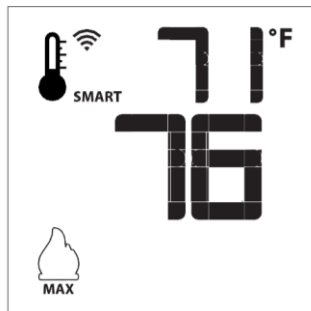
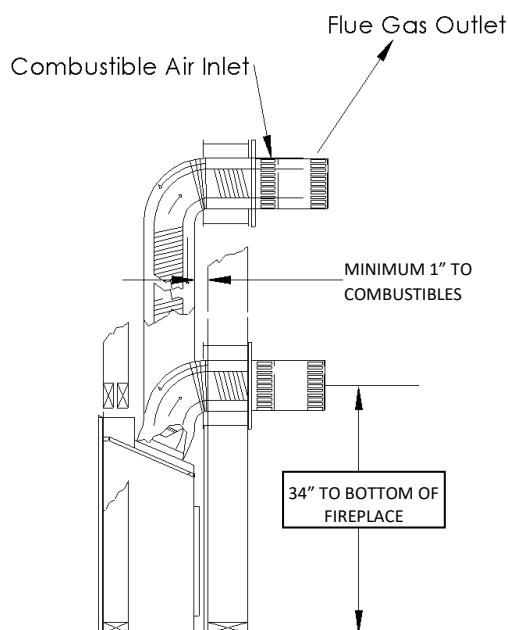

Fig. 11: Smart flame function
Figure 1
To activate this function, press the Thermostat Key (Fig. 1) until the word "SMART" appears to the right of the temperature bulb graphic (Fig. 11).
If the appliance is equipped with a hot air circulating fan, the speed of the fan can be controlled by the Proflame system. The fan speed can be adjusted through six (6) speeds. To activate this function use the Mode Key (fig.1) to index to the fan control icon (Fig. 13). Use the Up/Down Arrow Keys (Fig.1) to turn on, off or adjust the fan speed (fig. 14). A single "beep" will confirm reception of the command.
The auxiliary function controls the AUX power outlet by the dimmable light control. To activate this function use the Mode Key (fig. 1) to index to the AUX icon (fig. 15 & 16).
The intensity of the output can be adjusted through six (6) levels. Use the Up/Down Arrow Keys (Fig.1) adjust the output level (fig. 16). A single "beep" will confirm reception of the command.
Place the spring spaces provided approximately every two feet to stabilize 4" flex in the center of 7" flex. When forming bends place spring in bend or before and after. (See Fig. 1). Horizontal runs require support metal straps every 2 feet. In offset installation support straps should be used to stabilize pipe.
Expand 4" and 7" flex pipe to the point that the 7" protrudes approximately 2 to 3 inches past outer wall and the 4" flex protrudes approximately 2 to 3 inches past the 7" flex. (See Fig. 1). Attach the 4" pipe to the termination first and secure with sealant and screws then attach the 7" flex to the termination with caulking and screws. Termination may then be moved back to the outer wall and attached to home screwing into the framing. Silicone around termination to waterproof. If siding shield is going to be used attach this using same attaching hole as the top of termination after termination has been caulked for water proofing.
4. To install wall thimble center over 11" x 11" (inch) framing from both sides of wall and secure. Route flex vent pipe through wall thimble (See Figure 1).
8. Support horizontal pipes every two (2) feet (61 cm) with metal strap bands. Re-check fireplace to make sure it is levelled and properly positioned and secured.